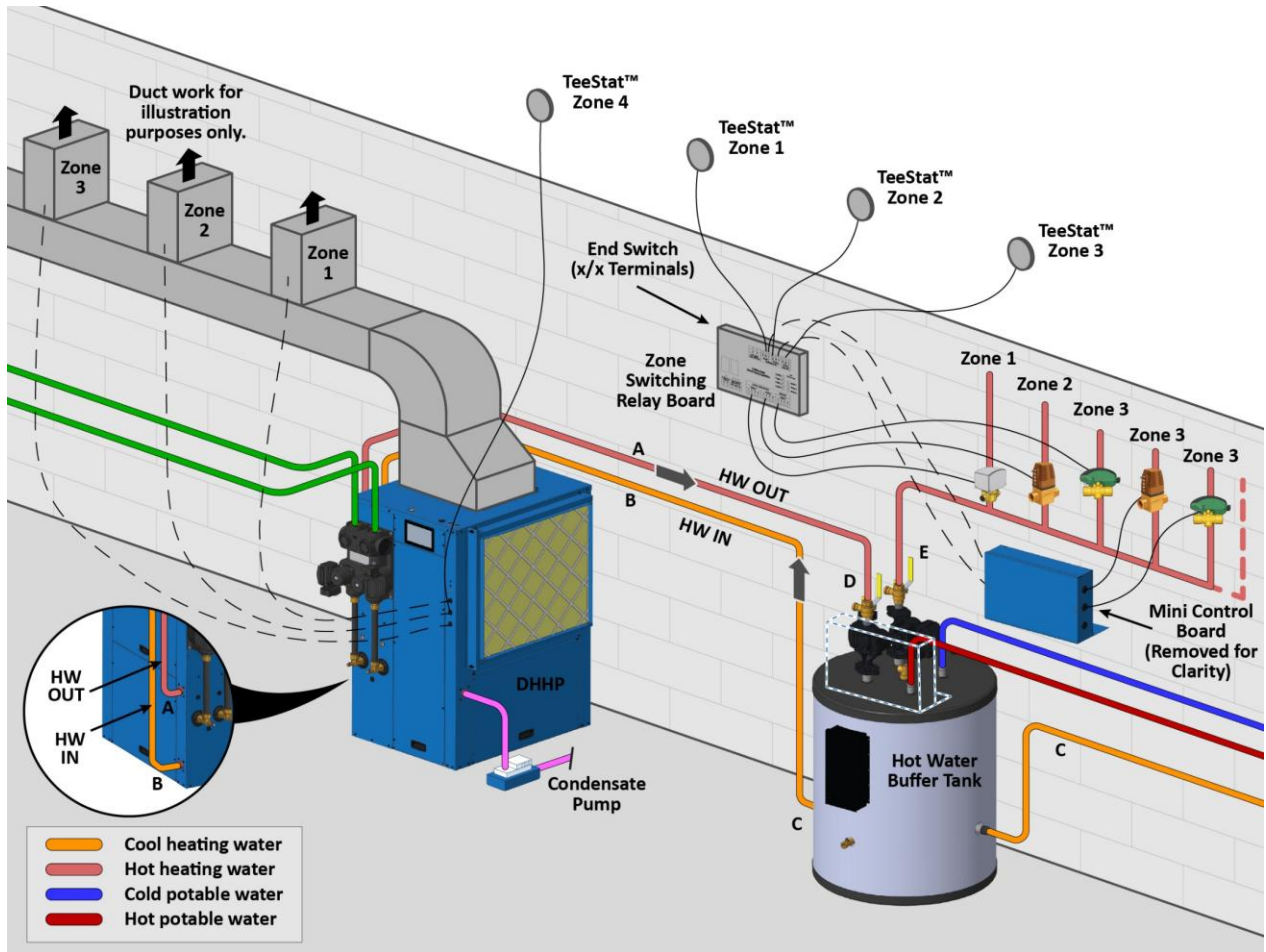
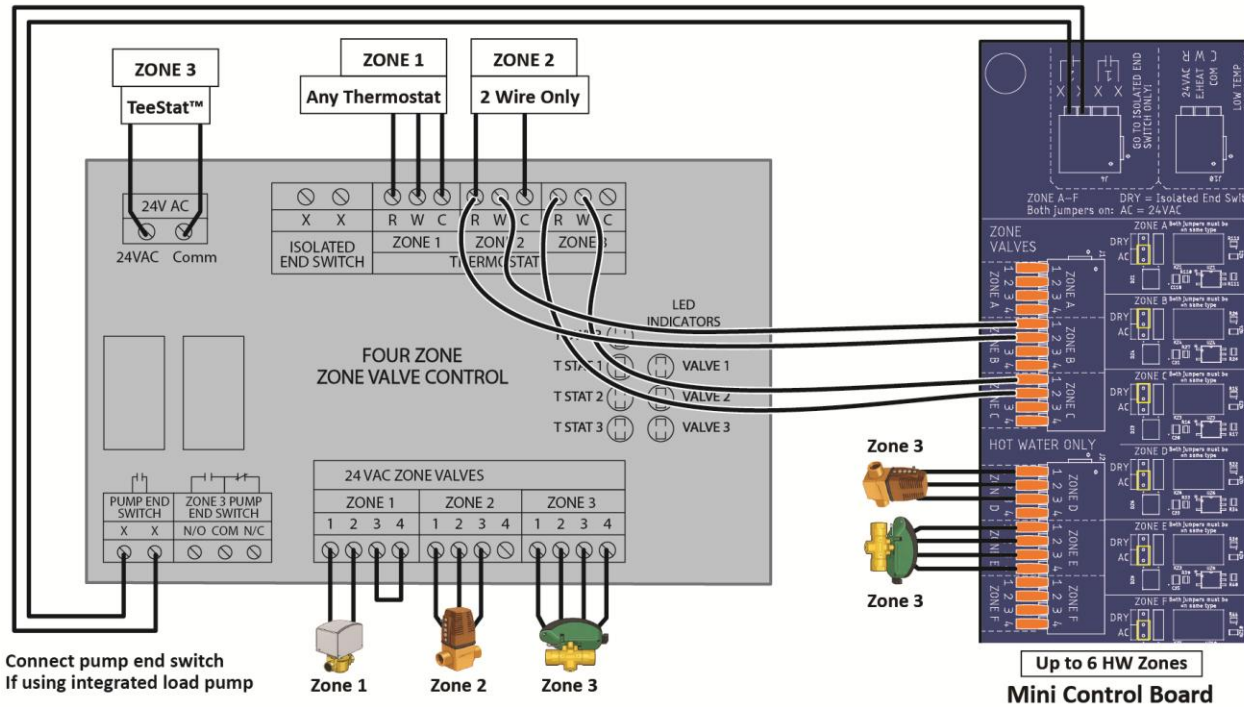
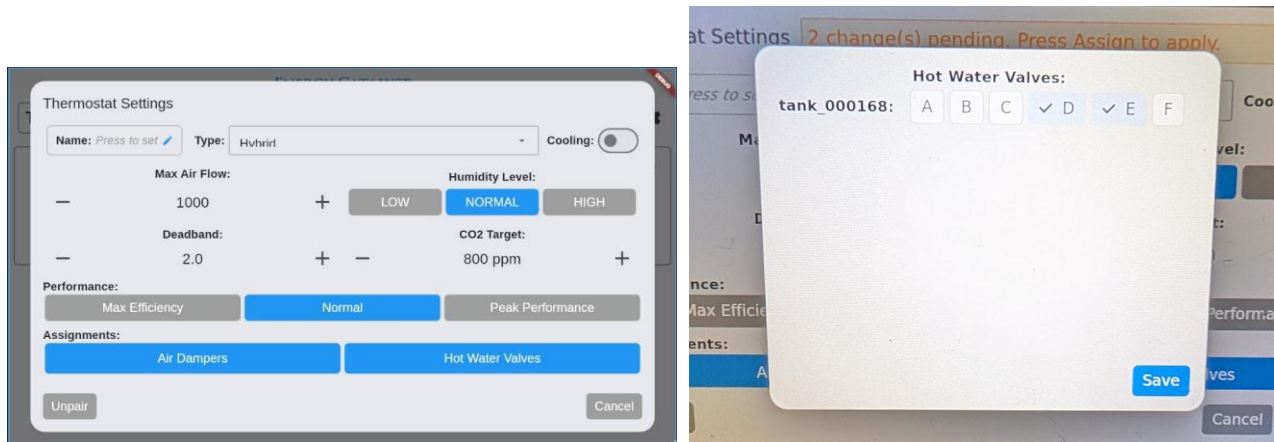

Figure 13: Multi-zone Hybrid configuration with zone valves (makeup assembly not shown)
Figure 14: Wiring options for thermostats with zone valve control board and mini control board
Figure 16: Heat Pump setup screen
- If zoning with **zone valves**, the load pump can be used as shown in Figure 13. If a load pump is used, it will activate when the isolated end switch is closed. (See the *Zon* section for more information.)
Figure 13 and Figure 14 represent an example of a multi-zone Hybrid configuration zoning with valves.
The zone examples in Figure 14 are:
- Zone 1** has three (3) wires and a third-party thermostat. The Heat Pump will maintain temperature in the Buffer Tank and run the recirculation pump when the pump end switch (X/X) is closed. Keep in mind that a zone with a third-party thermostat will not be able to turn on backup heat, turn on cooling, or request higher temperature hot water from the Heat Pump.
- Zone 2** has only two (2) wires and is controlled by an Energy Catalyst TeeStat thermostat, which uses R and C to power itself. Since this zone does not have a third wire (a common situation in retrofits), the TeeStat thermostat can be connected wirelessly to the Heat Pump and use the mini control board to jump power from R to W, activating the zone valve (and activating the load pump when the pump end switch closes). In the Heat Pump setup screen for the TeeStat, **Hot Water Valve Zone B** will be selected for that TeeStat, and any time that thermostat calls for heat, Zone B on the mini control board will be triggered ON, jumping R and W together.
- Zone 3** has only two (2) wires and is controlled by an Energy Catalyst TeeStat thermostat, which uses 24VAC terminals on the side of the board to power itself. Similar to Zone 2, it will use the mini control board to jump R and W in order to trigger Zone 3 on the third-party zone control board. In this example, Zone 3 needs several zone valves to open at the same time. Additional zones can be activated and powered directly from the mini control board. As shown in Figure 14, Zones D and E power two different types of zone valves directly. Please note that the jumpers must be moved from “DRY” to “AC” to power the zone valves. An installer specifies the mini control zones to be activated in the Heat Pump setup screen (see Figure 16) for each respective TeeStat thermostat.